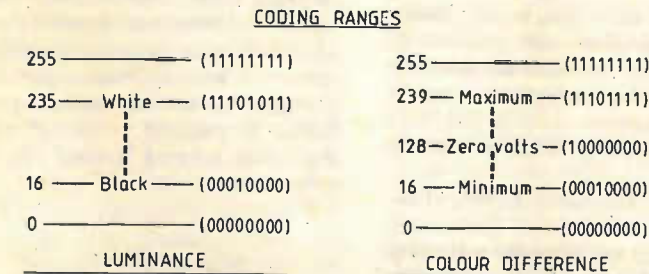

Fig. 1. Coding ranges for the 8-bit linear p.c.m. system
8-bit linear p.c.m. coding will be used and it was agreed by most delegations that the coding ranges should be set as indicated in Fig. 1.
**Remote control for a hi-fi system.** Unmarked components in Steve Kirby's article in the March issue, page 54, are p-n-p transistor in Fig. 1 and 3.9kΩ for its base-emitter resistor. Transmitter diodes are high-power types - RS Components 308-512 or equivalent. Labels "standby" and "normalise" should be transposed on the keyboard. Notes on setting up the link, a simplified tone control summing circuit, and p.r.o.m. listing will be published next month. In the mean time they can be obtained by sending a stamped, addressed envelope to Steve Kirby at the Department of Electronics, University of York, Heslington, York YO1 5DD.